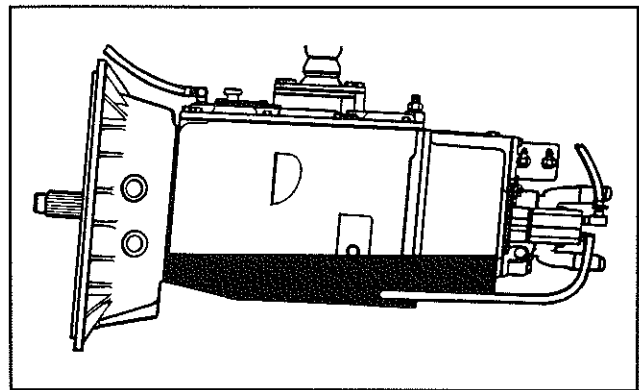

Figure 3
6. Use high quality oil that meets Spicer specifications (See lubrication information, page 7) and verify the oil level (Figure 3). On a level terrain, 15 quarts (14.2 liters) of oil should be in the transmission. If you are using a pump and oil cooler for the transmission, let the pump run briefly to fill the tubes and cooler to establish the oil level.